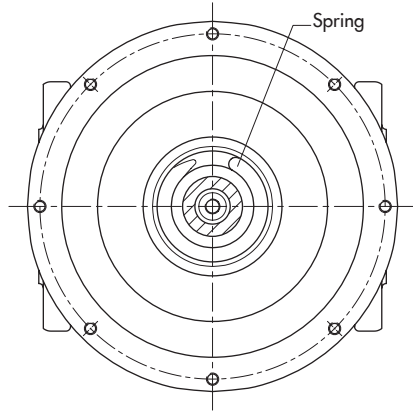

Fig. 9-3: Alignment of the spring
4. Insert gasket (1.2) into the body. Place the valve bonnet (5) on the body. In the fail-close version, lift the plug stem and carefully guide it through the packing. Fasten the valve bonnet by evenly tightening the nuts (1.1). Thread the lock nut (3.2) onto the plug stem until it reaches the thread end. Place on washer (3.3).
5. Insert spring (5.5) into the valve bonnet and align it (see Fig. 9-3). Screw spring plate (5.6) on the plug stem by hand, until it rests on the spring. Align the cam of the spring plate cams so that it is positioned above the recess of the diaphragm case.